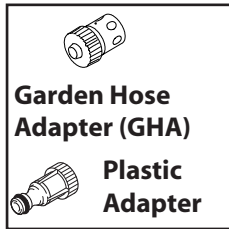

Fig.3
- Install the garden hose adapter (GHA) and quick connect filter. It is made up of two separate pieces. (1) A clear plastic adapter with a screen filter (about 3 inches long) and (2) a blue/black collar attachment (Fig.3).